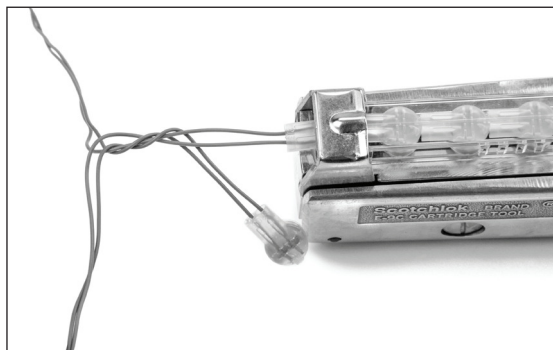

Figure 4. Twist pairs one full turn
- 4.1 Locate the joint by twisting pairs one full turn. See Figure 4.